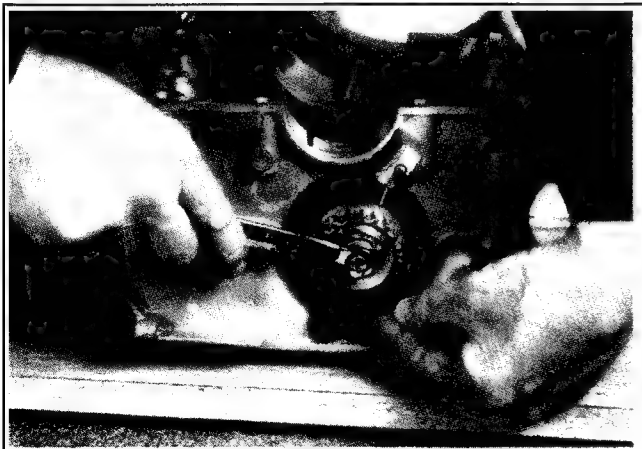

Figure 10-17. Using Holding Tool to Remove Sprocket.
1. Use the flywheel holding tool to hold sprocket. Then remove retaining screw, washers, and sprocket. A small gear puller may be required to free the sprocket from the shaft. See Figures 10-17 and 10-18.